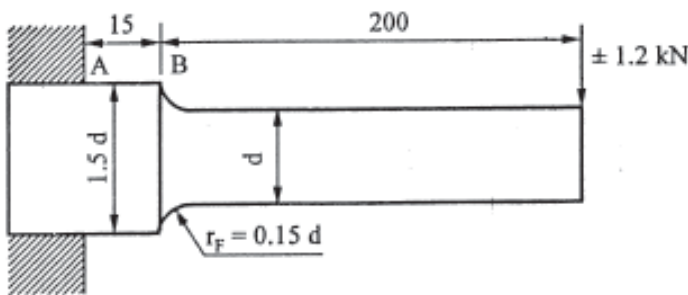

FIGURE 6, QVE 9b
b) A cantilever beam having an ultimate tensile strength of 500 N/mm^2 is subjected to a completely reversing load of 1.2 kN as shown in Figure 6. The notch sensitivity at the fillet is 0.6 . Determine the diameter 'd' for a life of 8000 cycles. Assume surface factor as 0.8 , size factor as 0.9 and the calculations are expected at 90% reliability, for which the reliability factor is 0.897 .